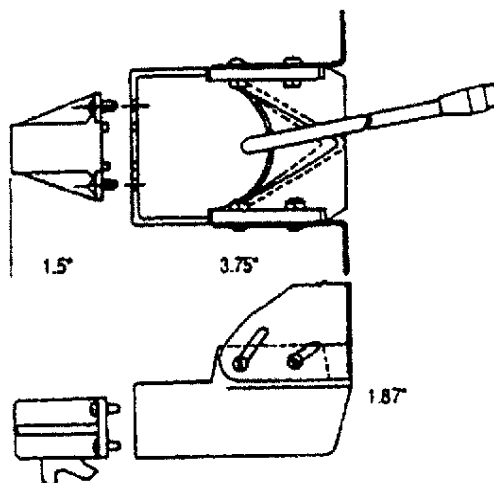

Figure 1
3. Dimensions. see Figures 1 and 2.